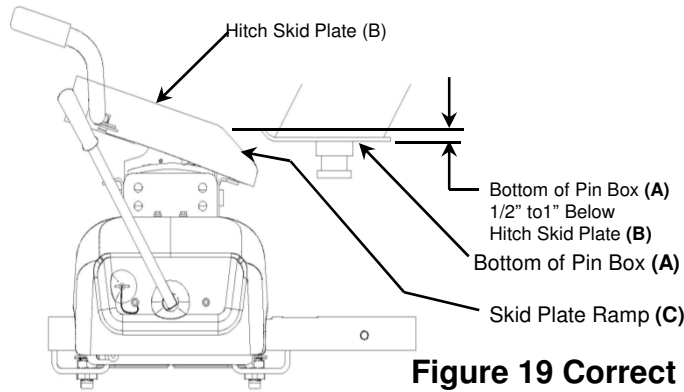

Figure 19 Correct
3. Using trailer jacks, adjust trailer height following the directions in the trailer manual so that the bottom of trailer pin box ("A" Figure. 19) is 1/2 to 1 inch below skid plate (See "B" in Figure 19). During the hitching maneuver, the bottom of the trailer pin box should come in contact with skid plate ramp ("C" in Figure 19).